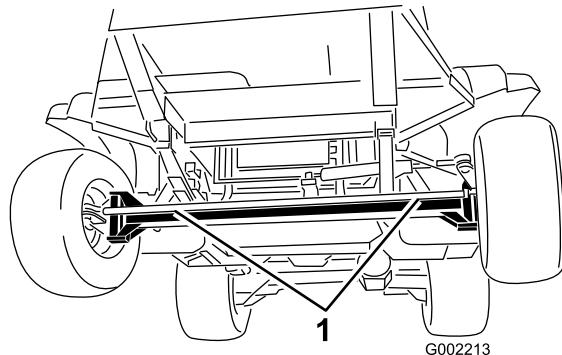
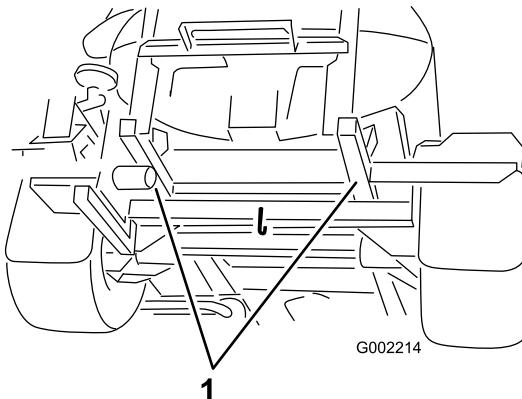

Figure 93
Figure 94
4. Affix a tow line to the frame; refer to the front and rear towing points (Figure 93 and Figure 94).